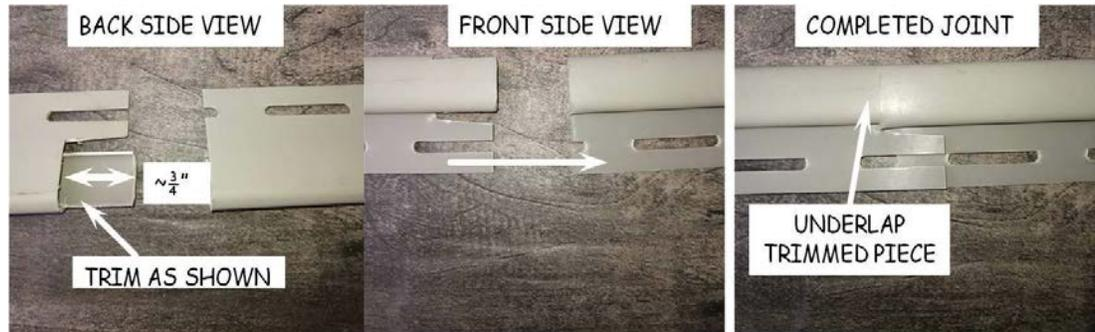

Figure 11-6. Undersill ("Utility") Trim.
1. Undersill trim (or "utility trim" as noted in Figure 11-6) is installed below the soffit F-channel on eave sides of the house, and below any porch F-channel. Nail snugly approximately every fifth slot using 2½" siding nails (use 1½" siding nails when applying directly over OSB sheathing) being sure to hit framing or OSB sheathing.
2. Where a joint is required in the undersill, prepare one end as shown in Figure 11-6, and insert into the end of the other piece, leaving a ⅛" gap between ends.